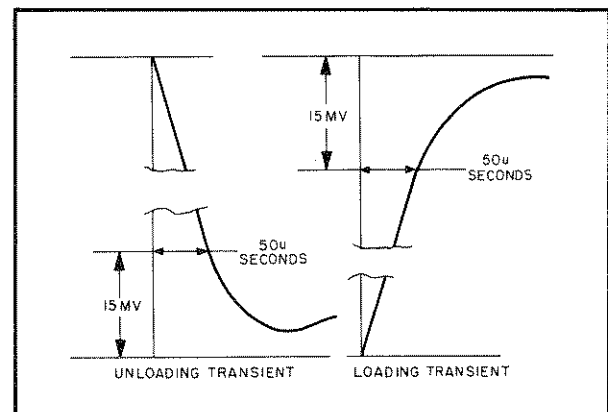

Figure 5-8. Transient Recovery Time, Waveforms
- Starting from the major graticule division representative of time zero, count to the right 50 μ sec and vertically 15mV. Recovery should be within these tolerances as illustrated in Figure 5-8.